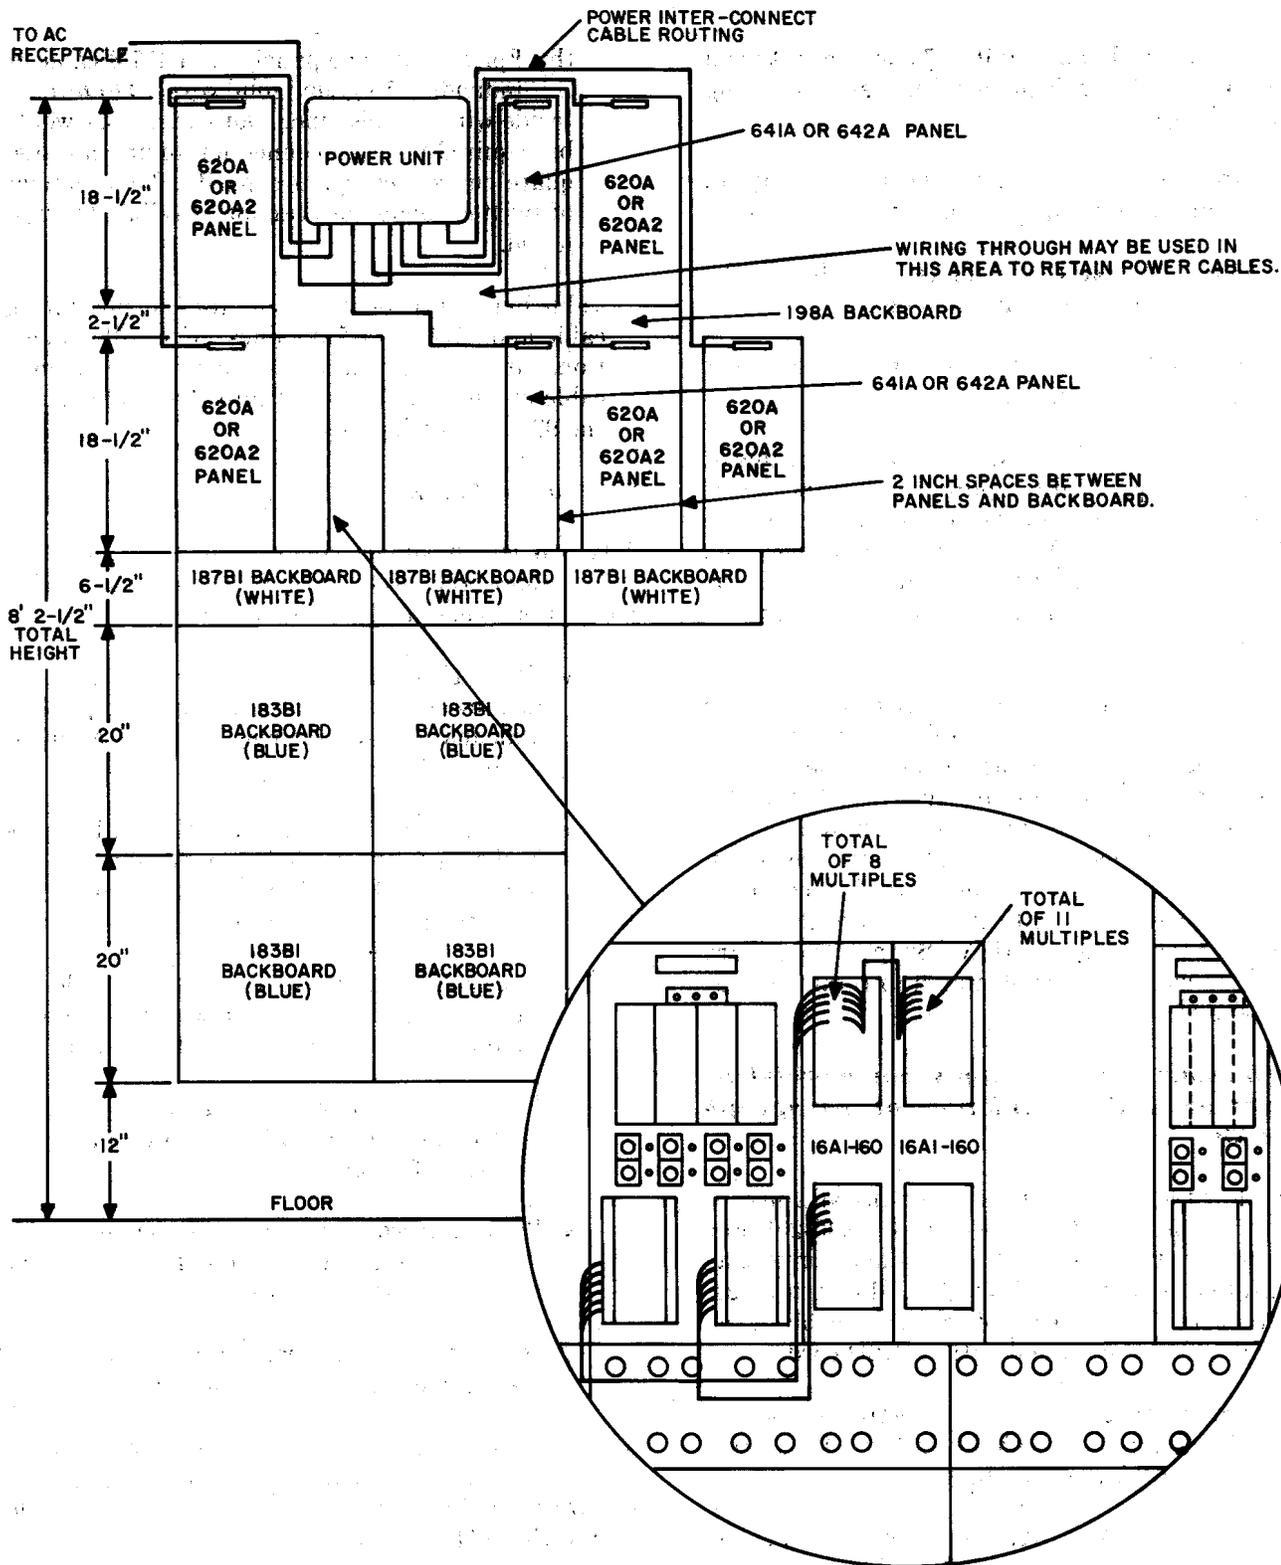

Fig. 9—Stacked Modular Apparatus and Method of Terminal Multiplexing Using 16A1-160 Terminal Blocks
3.11 Where modular panels must be stacked one above the other, the following installation method is recommended (Fig. 9 and 10).